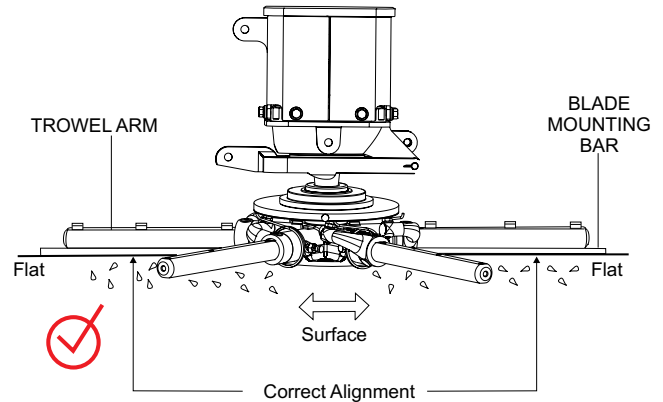

Figure 35. Correct Spider Plate Alignment
5. Figure 35 illustrates the "correct alignment " for a spider plate (as shipped from the factory).